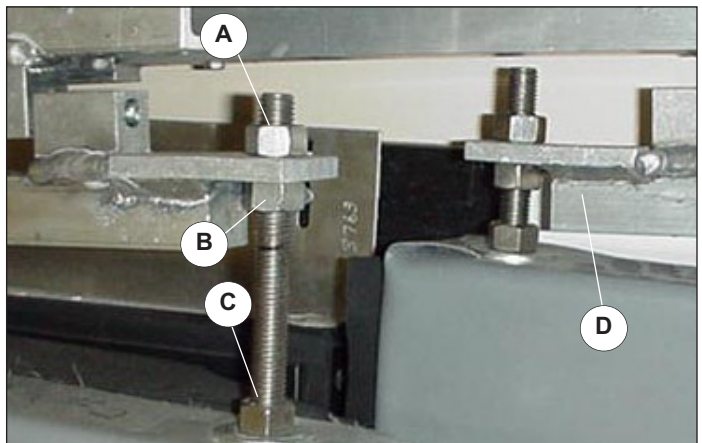

Figure 24.3
3. If adjustments are necessary, adjust close limit switch as needed, or tighten and loosen upper (A), center (B), lower (C) panel hanger nuts on panel hanger (D) as required, **Figure 24.3**.